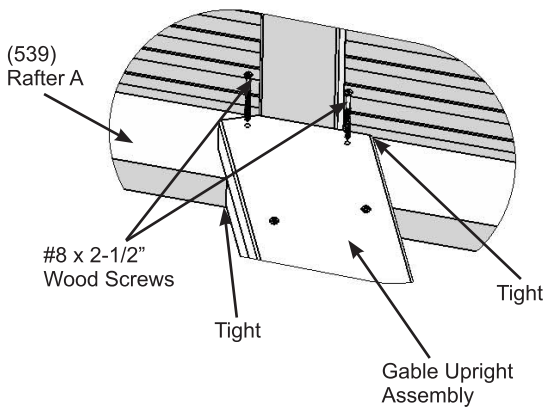

Fig. 10.7
C: Loosely attach each of the (539) Rafter As to the inside of each Side Beam Assembly with one Rafter to Beam Bracket per rafter using one 1/4 x 2" Hex Bolt (with two 1/4-5/16" large washer and one 1/4" lock nut) per bracket. Push up on the centre of the Roof Panels so the notches in the rafters are tight to the Side Beam Assembly then attach five #10 x 1-1/4" Pan Screws per bracket. Once screws are installed tighten bolts. (fig. 10.7, 10.8 and 10.9)